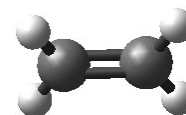

Figure 8
3. Construct an ethene (figure 8) molecule by converting the C-C single bond to a double bond. To make the double bond, select the bond between the two carbon atoms. Right-click on the bond and then select "double bond." Now make another dihedral angle measurement. Record the angle.